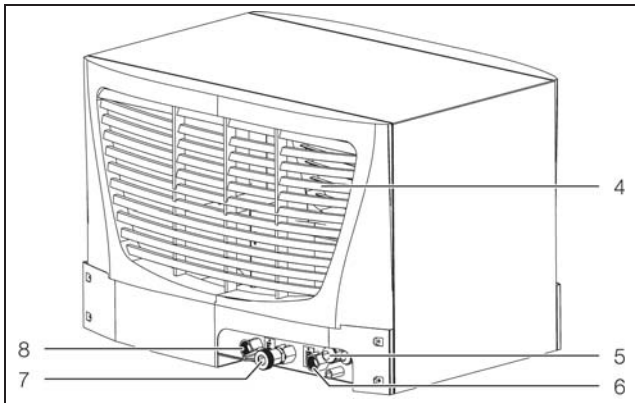

Fig. 2: View from rear (3318.600, 3318.610, 3319.600, 3319.610)
Tank drain nozzle (see fig. 2, item 7) only on models 3318.600 and 3319.600.